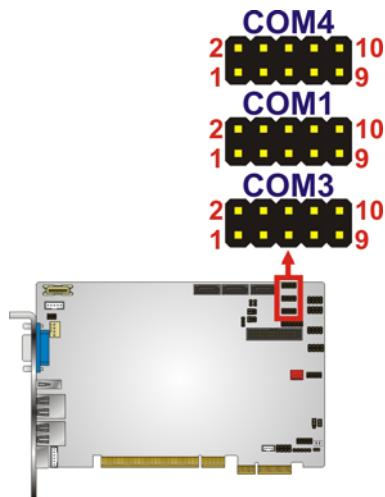

Figure 3-15: COM Connector Pinout Locations
**CN Location:** See Figure 3-15